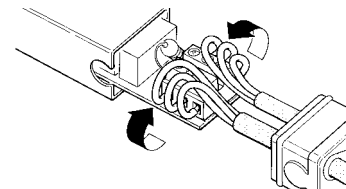

Fig. 6
- 8 Fold the conductors as shown in Figure 6.